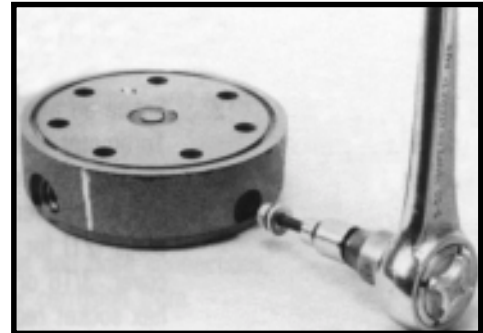

Figure 8
- 5. If the end cover (2) is equipped with shuttle valve or relief valve (24) components, remove the two previously loosened plugs (21) and o-rings (22). SEE FIGURE 8.